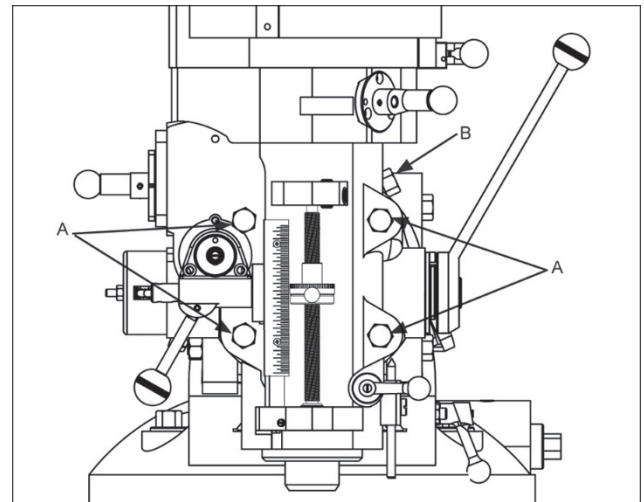

Figure 16
- Loosen four large hex nuts that secure the mill head to the ram adapter (refer to Figure 16). 1/4 turn should be sufficient to allow head to move.